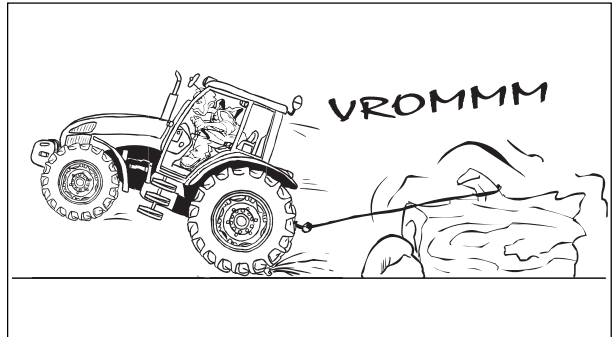

Fig.2-30
- Start forward slowly and gradually increase your speed. DO NOT rev the engine or drop the clutch. If the tractor is attached to a heavy load, or immovable object, improper clutching may cause overturn (Fig. 2-30 and 2-31).